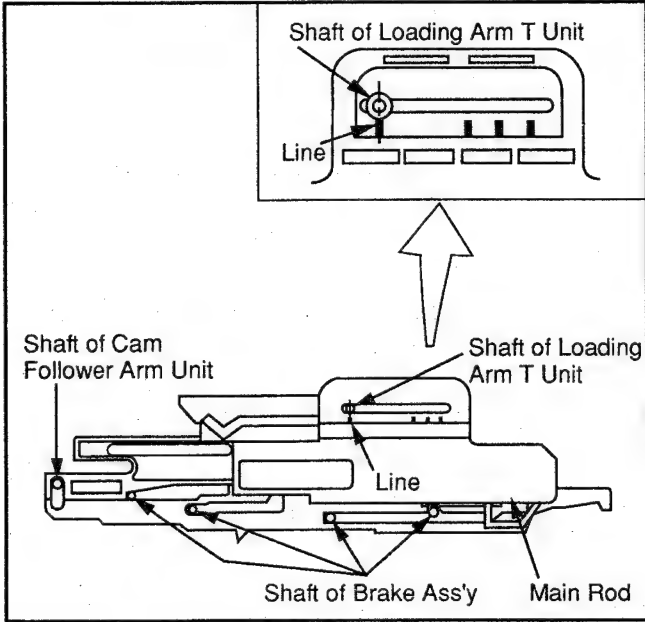

Fig. A3
1. Install the Main Rod so that the line on the Main Rod aligns with the Shaft of the Loading Arm T Unit. Make sure the Shafts of the Brake Ass'y, and the Shaft of the Cam Follower Arm Unit are positioned as shown in Fig. A3.
Shaft of the in Fig. A3.